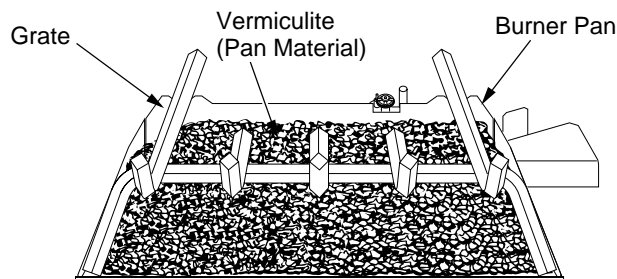

Figure 20 - Fill Entire Burner Pan with Vermiculite
1. Open the bag(s) of vermiculite and fill the entire burner pan until the burner tube is completely covered (see Figure 20).